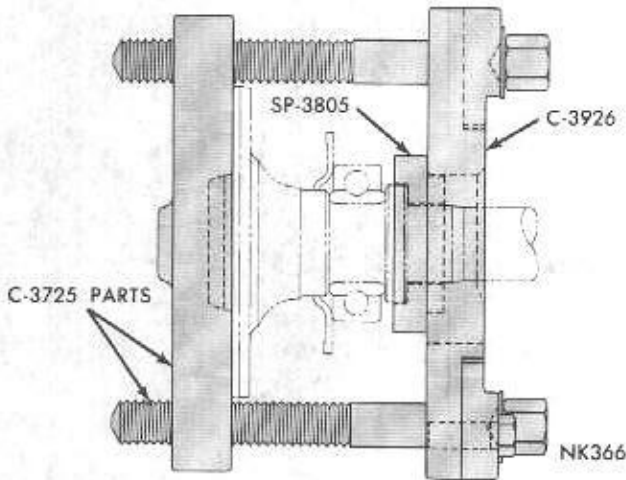

Fig. 6—Installing Rear Axle Shaft Bearing
(1) Install axle shaft retainer plate, bearing, and bearing retainer collar on axle shaft. The axle shaft bearing and bearing retainer collar must fit tightly on bearing journal of axle shaft. Using tool C-3725 and C-3926 press them into place by tightening bolts in tool alternately (Fig. 6). Coronet models equipped with 7-1/4 inch axle, install bearings and retainer collars using Tool C-3971 and adapter C-4000.